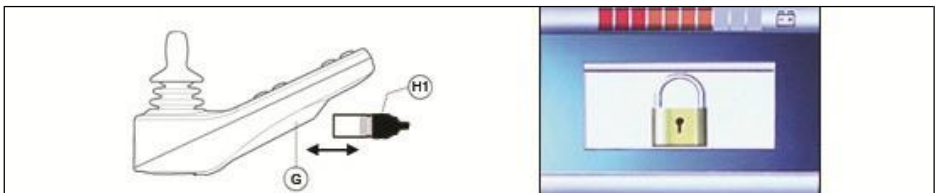

Figure 6.1
To lock the controller with the special key (H1 in figure 6.1):
- Insert and remove the special key into the Charger Socket on the Controller (G in figure 6.1). The controller is now locked and the following screen will be displayed.
- Insert and remove the special key into the Charger Socket on the Controller (G in figure 6.1). The controller is now unlocked.